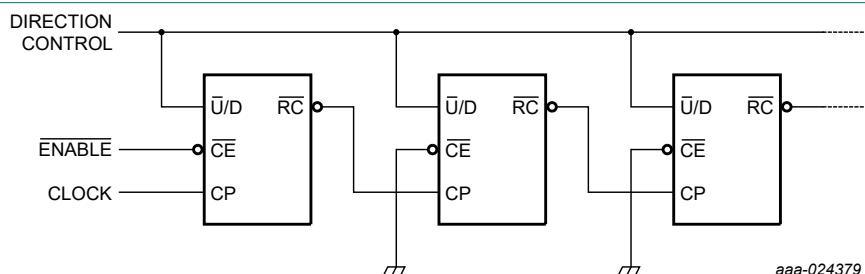
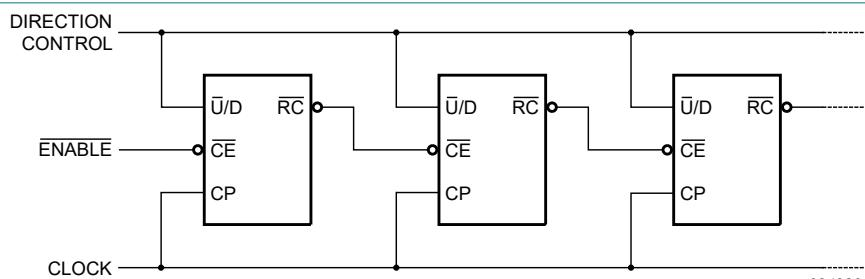
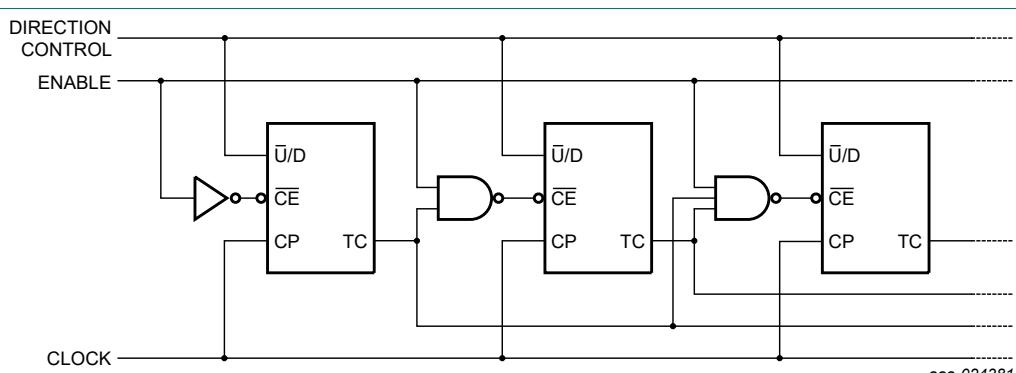

Fig. 5. N-stage ripple counter using ripple clock
Fig. 6 Synchronous  $n$ -stage counter using ripple carry/borrow
Fig. 7. Synchronous n-stage counter with parallel gated carry/borrow
The 74HC191 is an asynchronously presettable 4-bit binary up/down counter. It contains four master/slave flip-flops with internal gating and steering logic to provide asynchronous preset and synchronous count-up and count-down operation. Asynchronous parallel load capability permits the counter to be preset to any desired value. Information present on the parallel data inputs (D0 to D3) is loaded into the counter and appears on the outputs when the parallel load ( $\overline{PL}$ ) input is LOW. This operation overrides the counting function. Counting is inhibited by a HIGH level on the count enable ( $\overline{CE}$ ) input. When  $\overline{CE}$  is LOW internal state changes are initiated synchronously by the LOW-to-HIGH transition of the clock input. The up/down ( $\overline{U/D}$ ) input signal determines the direction of counting as indicated in the function table. The  $\overline{CE}$  input may go LOW when the clock is in either state, however, the LOW-to-HIGH  $\overline{CE}$  transition must occur only when the clock is HIGH. Also, the  $\overline{U/D}$  input should be changed only when either  $\overline{CE}$  or CP is HIGH. Overflow/underflow indications are provided by two types of outputs, the terminal count (TC) and ripple clock ( $\overline{RC}$ ). The TC output is normally LOW and goes HIGH when a circuit reaches zero in the count-down mode or reaches '15' in the count-up-mode. The TC output will remain HIGH until a state change occurs, either by counting or presetting, or until  $\overline{U/D}$  is changed. Do not use the TC output as a clock signal because it is subject to decoding spikes. The TC signal is used internally to enable the  $\overline{RC}$  output. When TC is HIGH and  $\overline{CE}$  is LOW, the  $\overline{RC}$  output follows the clock pulse (CP). This feature simplifies the design of multistage counters as shown in Fig. 5 and Fig. 6. In Fig. 5, each  $\overline{RC}$  output is used as the clock input to the next higher stage. It is only necessary to inhibit the first stage to prevent counting in all stages, since a HIGH on  $\overline{CE}$  inhibits the  $\overline{RC}$  output pulse. The timing skew between state changes in the first and last stages is represented by the cumulative delay of the clock as it ripples through the preceding stages. This can be a disadvantage of this configuration in some applications. Fig. 6 shows a method of causing state changes to occur simultaneously in all stages. The  $\overline{RC}$  outputs propagate the carry/borrow signals in ripple fashion and all clock inputs are driven in parallel. In this configuration the duration of the clock LOW state must be long enough to allow the negative-going edge of the carry/borrow signal to ripple through to the last stage before the clock goes HIGH. Since the  $\overline{RC}$  output of any package goes HIGH shortly after its CP input goes HIGH there is no such restriction on the HIGH-state duration of the clock. In Fig. 7, the configuration shown avoids ripple delays and their associated restrictions. Combining the TC signals from all the preceding stages forms the  $\overline{CE}$  input for a given stage. An enable must be included in each carry gate in order to inhibit counting. The TC output of a given stage is not affected by its own  $\overline{CE}$  signal therefore the simple inhibit scheme of Fig. 5 and Fig. 6 does not apply. Inputs include clamp diodes. This enables the use of current limiting resistors to interface inputs to voltages in excess of  $V_{CC}$ .